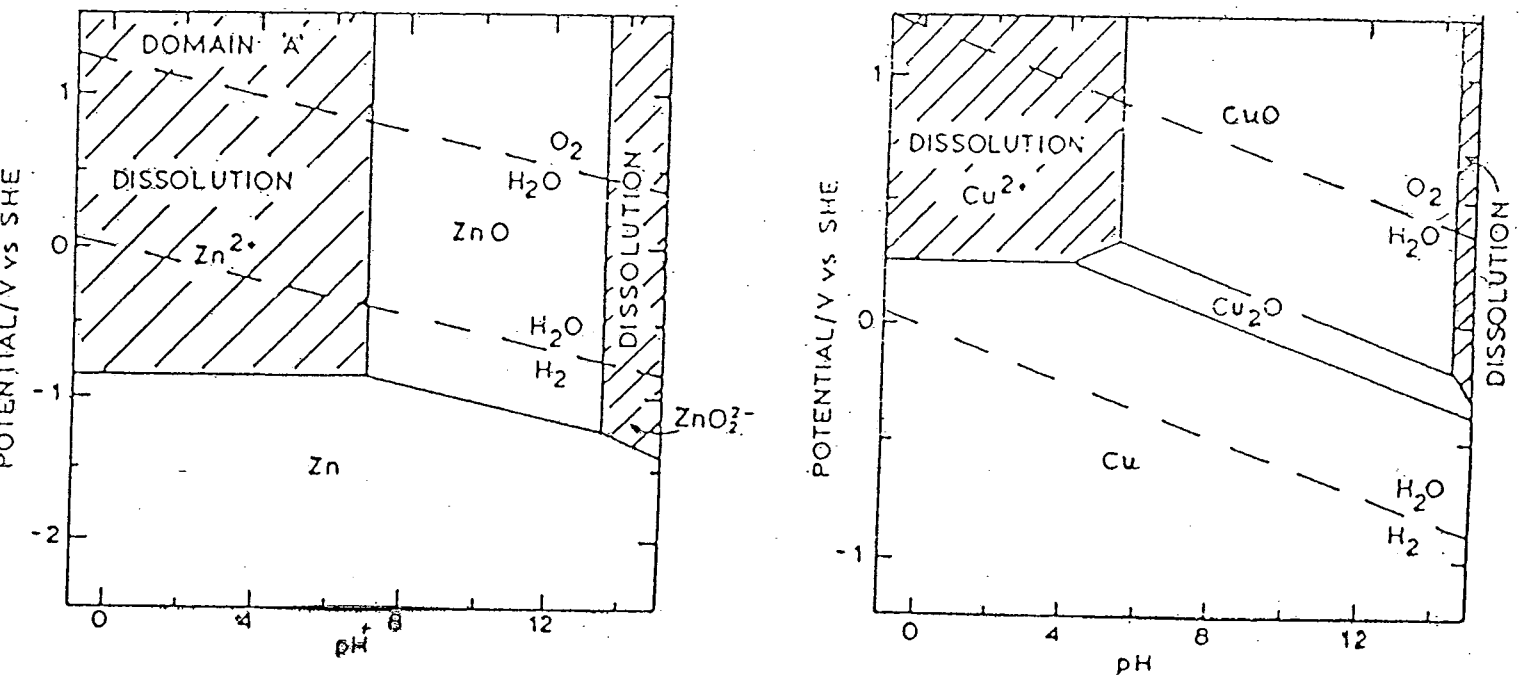

Figure 5.1:  $E_h$ -pH diagrams for (a) Zinc-water system (b) Copper-water system at 25°C
- [b] The thermodynamics of leaching reactions are best illustrated by the use of  $E_h$ -pH diagrams. Figure 5.1 (a) and (b) show the  $E_h$ -pH diagram for the zinc-water and copper-water systems respectively (for a metal ion activity of  $10^{-3}$  mol/kg) at  $25^\circ\text{C}$  with the domain of thermodynamic stability of water clearly defined.